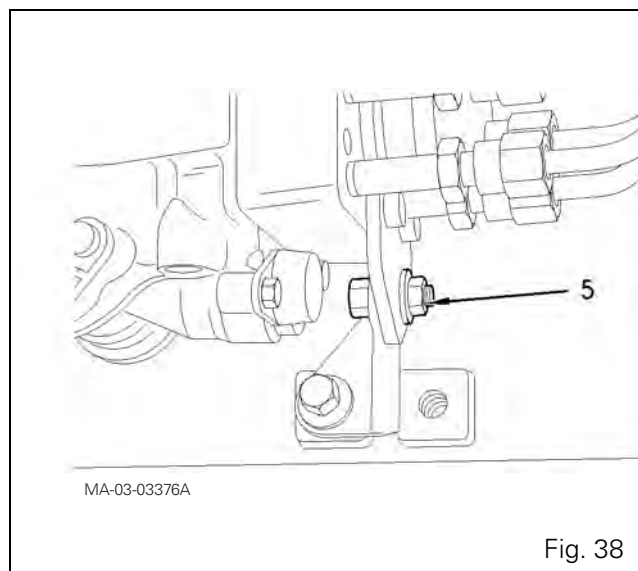

Fig. 38
186. Assemble the nut and screw (5) (Fig. 38) of the injection pump support.